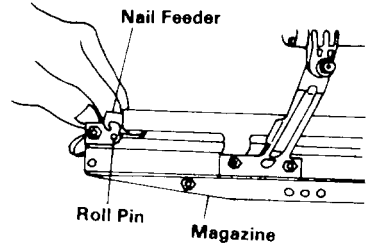

Fig. 5
- (1) Pull the nail feeder back and hang it over roll pin secured to the magazine. (See Fig. 5)